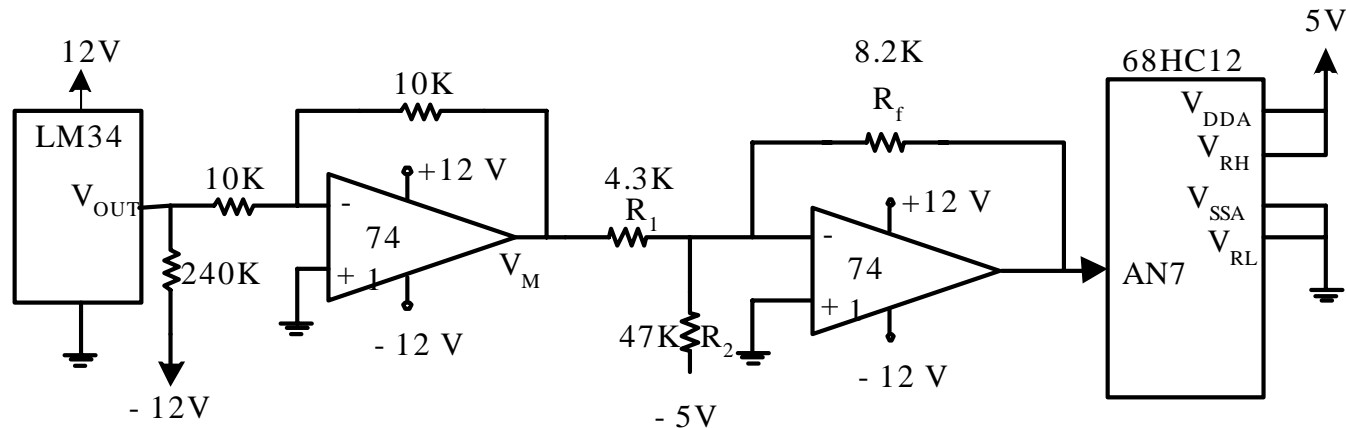

Figure 10.14 Circuit connection between the LM34 and the 68HC12
- Use the circuit shown in Figure 10.14 to shift and scale the sensor output to $0\sim 5\text{V}$.